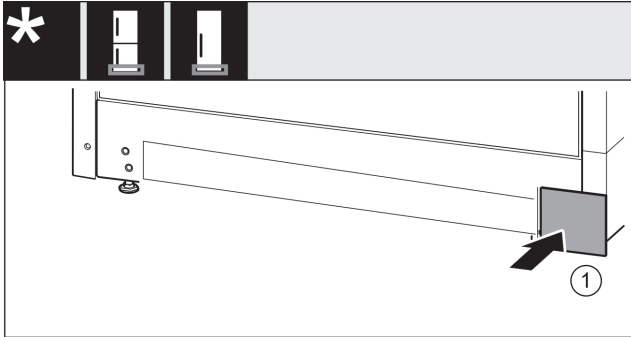

Fig. 27
- ▶ Re-attach the cover *Fig. 27 (1)* to the other side.